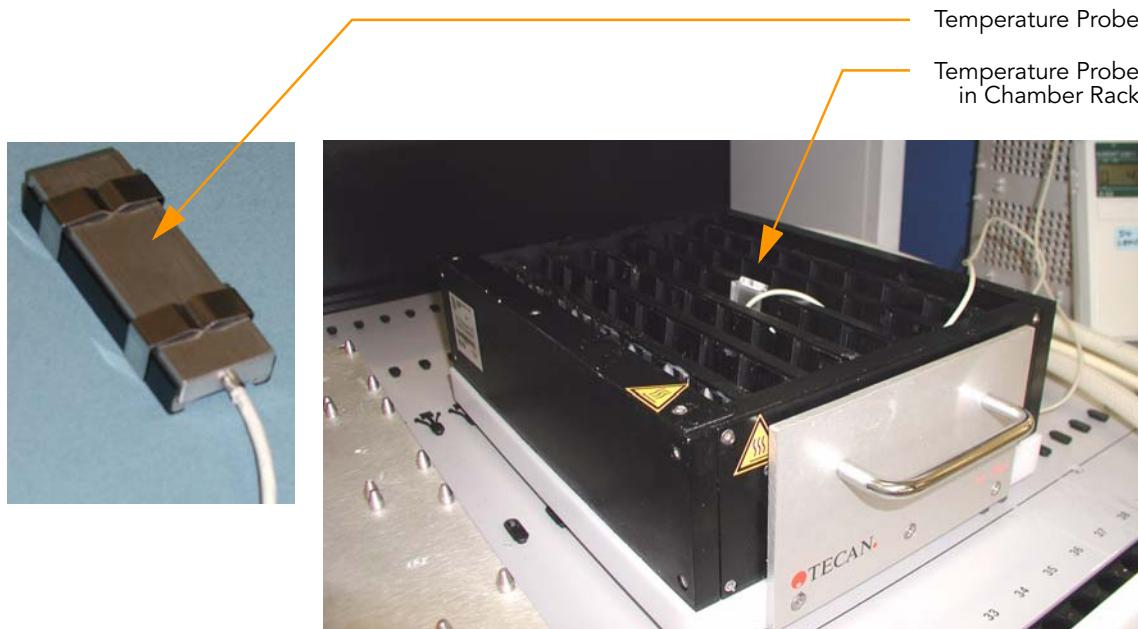

Figure 70 Illumina Temperature Probe in Chamber Rack
5. Use the Illumina Temperature Probe in several locations to ensure that the Chamber Rack is at 44°C (Figure 70).